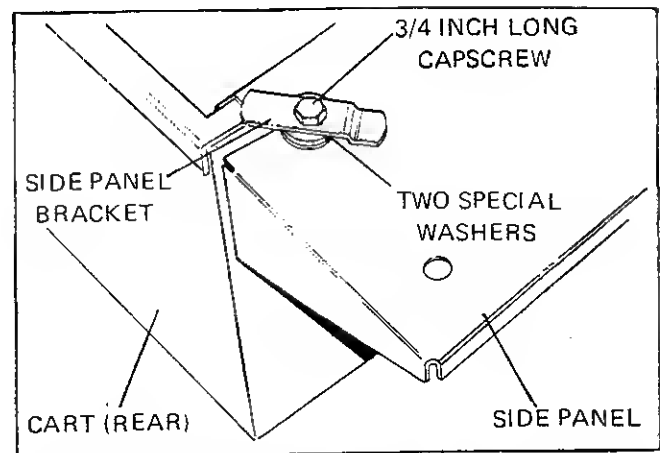

FIGURE 16
5. Secure bracket to inside rear of side panel with two special washers (above side panel), a flat washer (underside panel), a 3/4 inch long capscREW, and locknut (Figure 16). Position side panel bracket at angle illustrated. Repeat procedure for remaining rear corner.